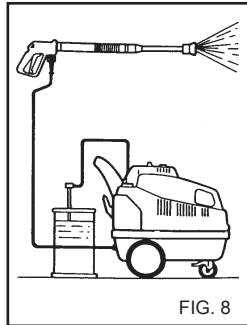

FIG. 8
- 3) After using with detergent, flush out the intake circuit; place the detergent suction hose (fig. 8) in a tank of clean water and let the pump run for 1 minute with the dosing tap turned fully on and the lance in detergent delivery condition.
- 4) After using with detergent, flush out the intake circuit; place the detergent suction hose (fig. 8) in a tank of clean water and let the pump run for 1 minute with the dosing tap turned fully on and the lance in detergent delivery condition.